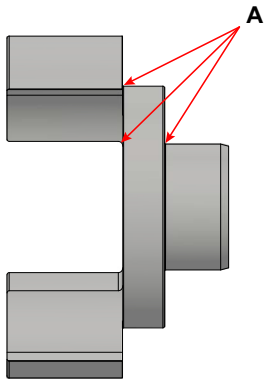

Figure 30 - Rotor Stress Points
- Thoroughly inspect the rotors for worn keyways, hub wear and stress cracks (Figure 30, item A). Use the dye check method to detect any fatigue-type cracks at rotor stress points.